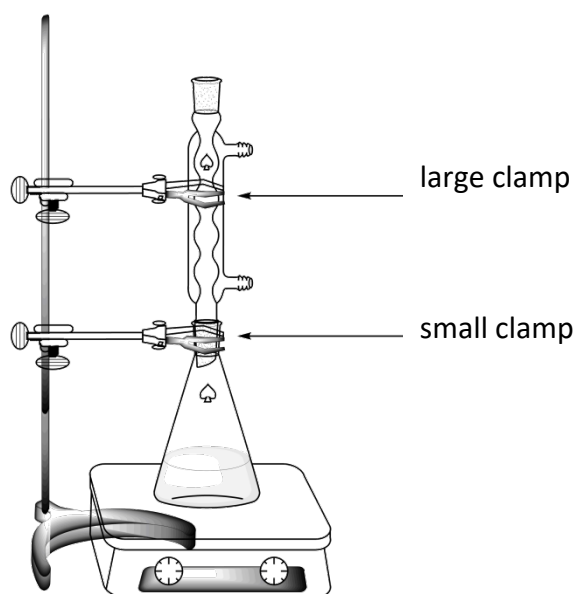

Figure 1. Setup for heating the reaction mixture under reflux
- Attach** the reflux condenser by loosening the large clamp and adjusting the ground-glass joints (see Figure 1). **Raise** your HELP card. A lab assistant will turn on the water and the hotplate.
2. **Recrystallise** the crude product using the appropriate amount of the water/ethanol mixture, using the same setup as for the reflux heating (see Figure 1). **Raise** your HELP card. A lab assistant will turn on the water and set the hotplate. More solvent can be added through the top of the condenser.